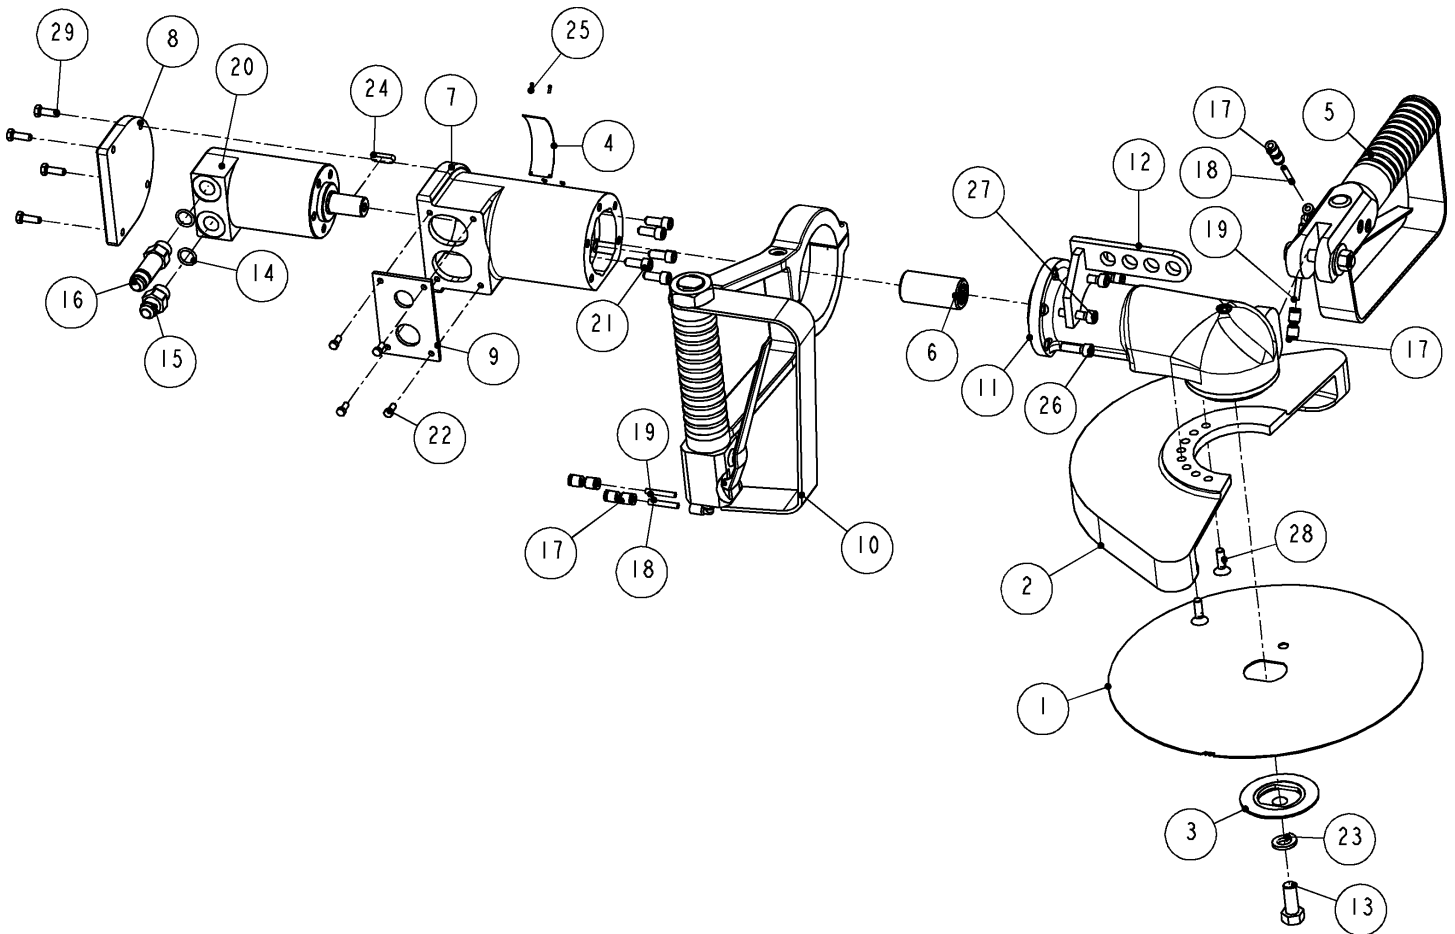

Figure 2 MODEL "HKM-I-H" – MAIN ASSEMBLY
1. REMOVE 5 SCREWS (#26 AND #27, FIG. 2) BETWEEN NOSE (#11) AND MOTOR SHELL (#7)
4. SLIDE OUT MOTOR (20), REMOVE COUPLING (#6) AND KEY (#24) ON MOTOR SIDE